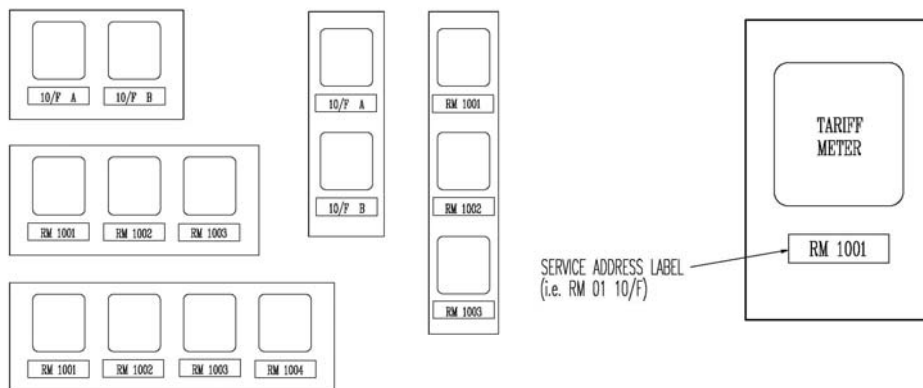

Figure 3 – Typical Meter Board Arrangement
- c. Flat numbering shall be from left to right, top to bottom in ascending order and be uniform throughout the building. A permanent, tidy and securely fixed flat/address label shall be provided at each meter position. Please refer to Figure 3 below for illustration.